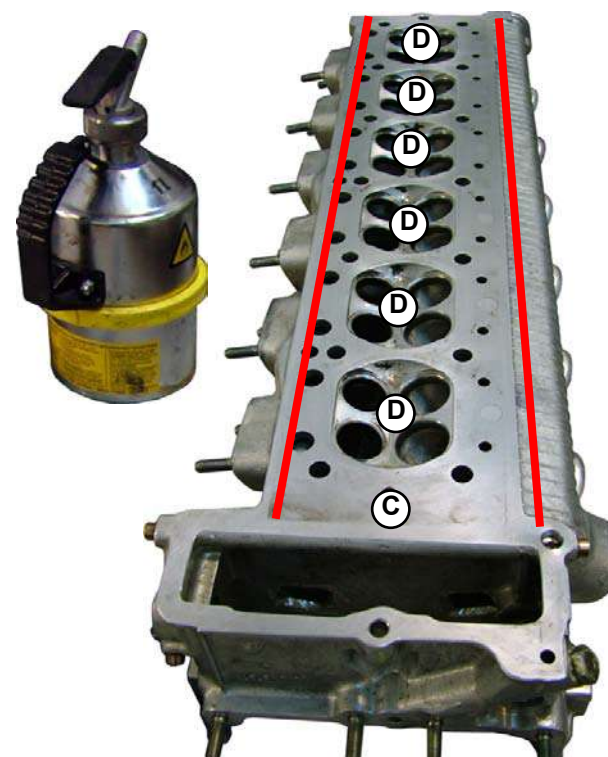

Fig.4
3. Rub the cap with a scouring pad (**C-Fig.4**) and clean using a grease remover.
Clean (including the valve housings) using a scouring pad and grease remover (**D-Fig.4**).